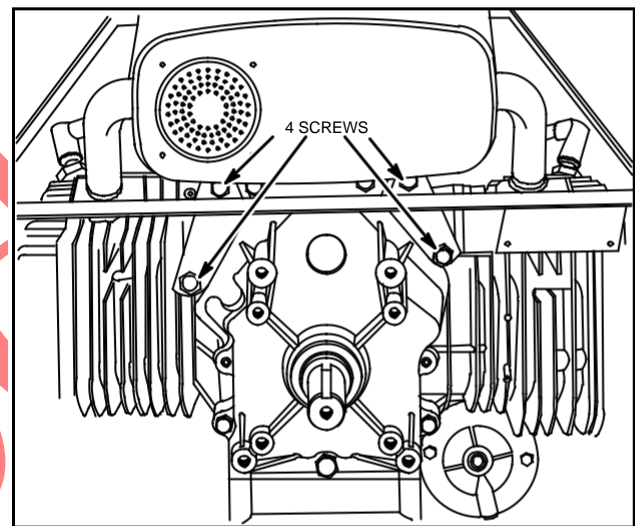

Fig. 3 – Bracket Mounting Screws
2. Remove four (4) hex head cap screws, Fig. 3.